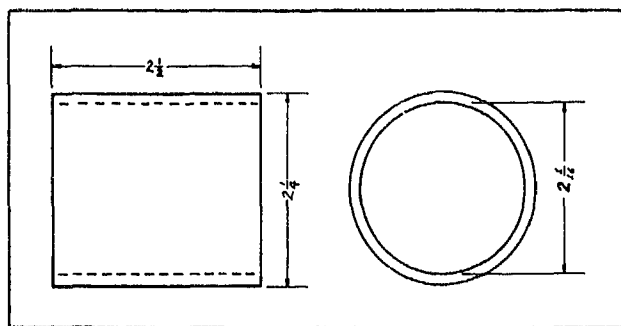

Fig. 28. Special Spacers
**NOTE:** Special spacers may be made from tubular stock machined to proper dimensions shown in Fig. 28. This is not necessary if bearing cones (3) and spacer (5) are centered on shaft (11) equal distances from shaft ends.